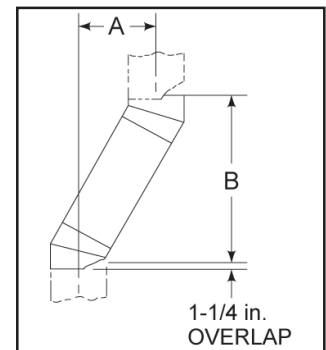

Figure 5 - Chimney Offset/Return
- 1) Measure how far the chimney needs to be shifted to enable it to avoid the overhead obstacle. See Figure 5, dimension "A" to determine chimney sections required to achieve the needed shift.
Example: Your "A" dimension from Figure 5 is 14-1/2 in. Using Table 1 the dimension closest to, but not less than 14-1/2 in. is 14-5/8 in. using a 30-deg offset/return. It is then determined from the table that you would need 33 in. (Dimension "B") between the offset and return. The chimney components that best fit your application are two SL312s.